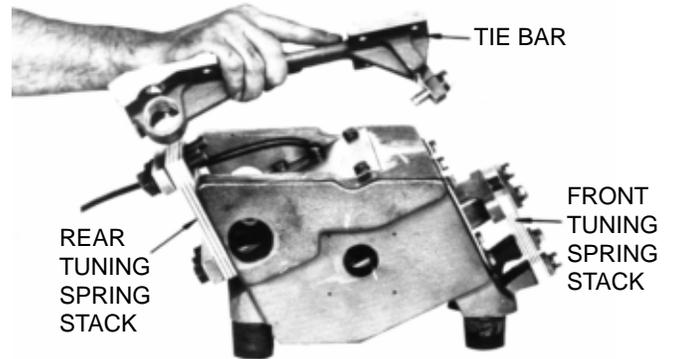

FIGURE 7
2. Remove the bolts securing the upper end of the rear tuning spring stack to the tiebar. Lift the tray-tiebar assembly away from the body housing. (See Figure 7).